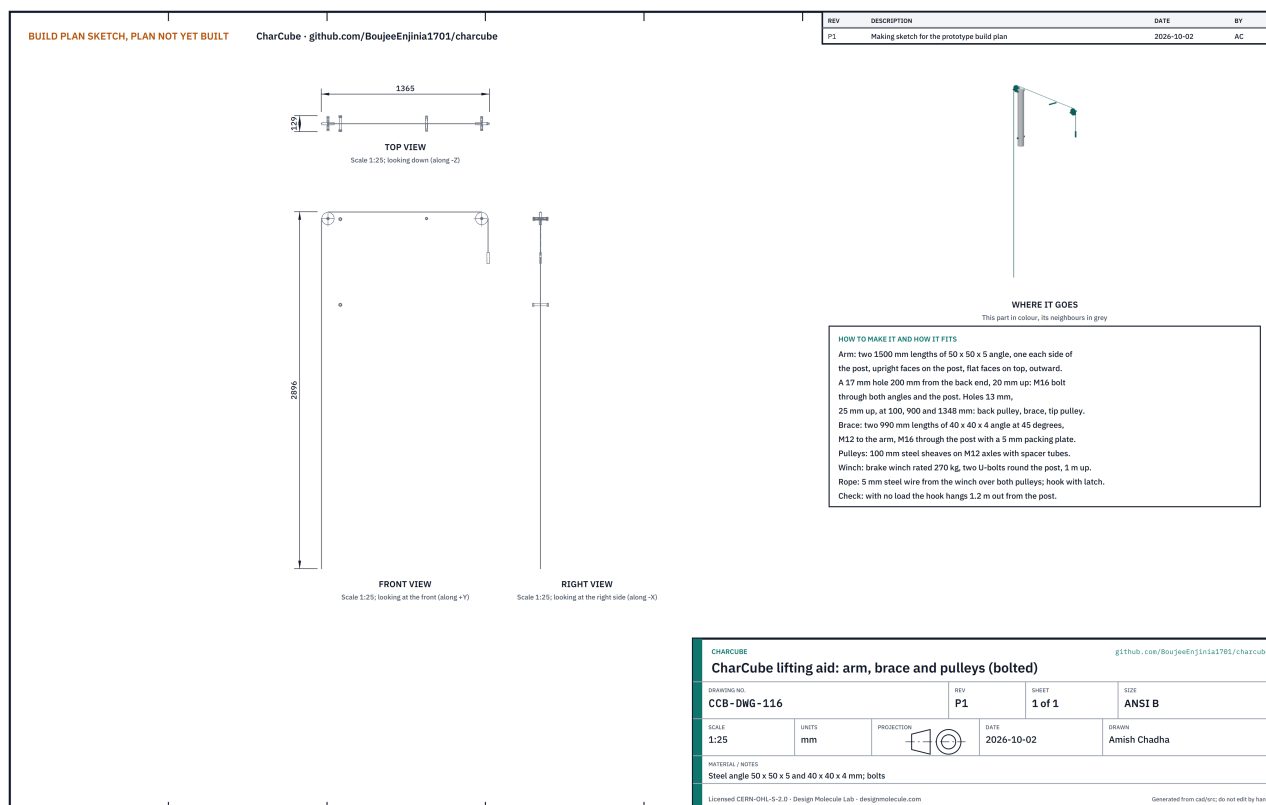

Figure 29. Lifting aid arm, brace and pulleys making sketch (CCB-DWG-116).
3. Arm: cut two lengths of 50 x 50 x 5 angle, 1500. Drill each as on Figure 29: a 17 hole for the post bolt, 200 from the back end, and 13 holes for the back pulley, the brace and the tip pulley.